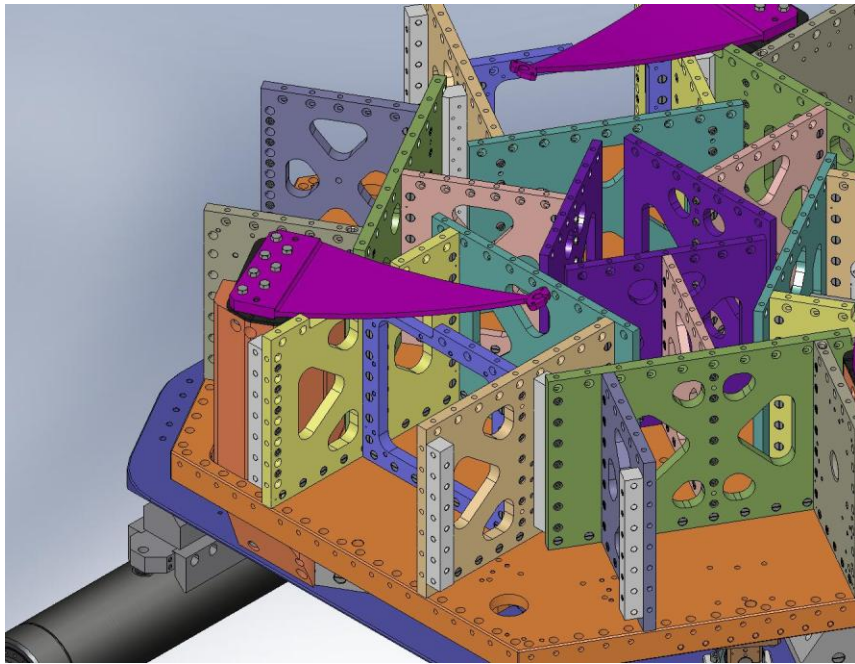

Figure 3.79. A Spring positioned on a Support Post.
- Place a **Spring** (D071100) on each **Support Post**, as shown in Figure 3.79. A hole and a slot in each **Spring** should slip around the dowel pins in the **Posts**. Start screws, to keep the **Spring** from tipping over.